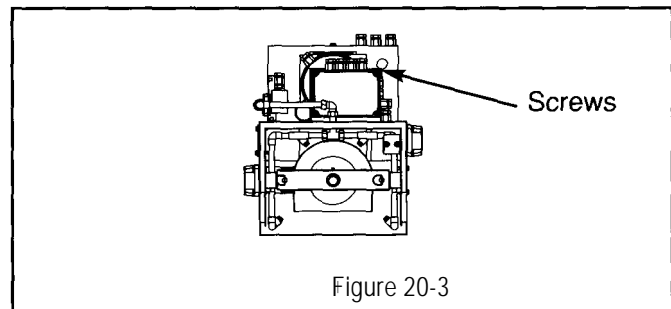

Figure 20-3
4. Remove cover to control box by loosening the screws securing it in place (see figure 20-3).